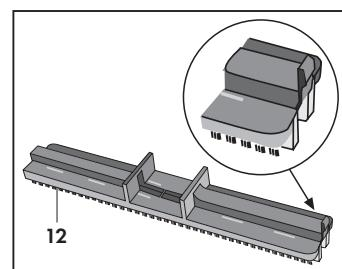

Fig. 15
- Frame with rubber strips for vacuuming steam and/or detergent off hard surfaces (**Fig. 15**).